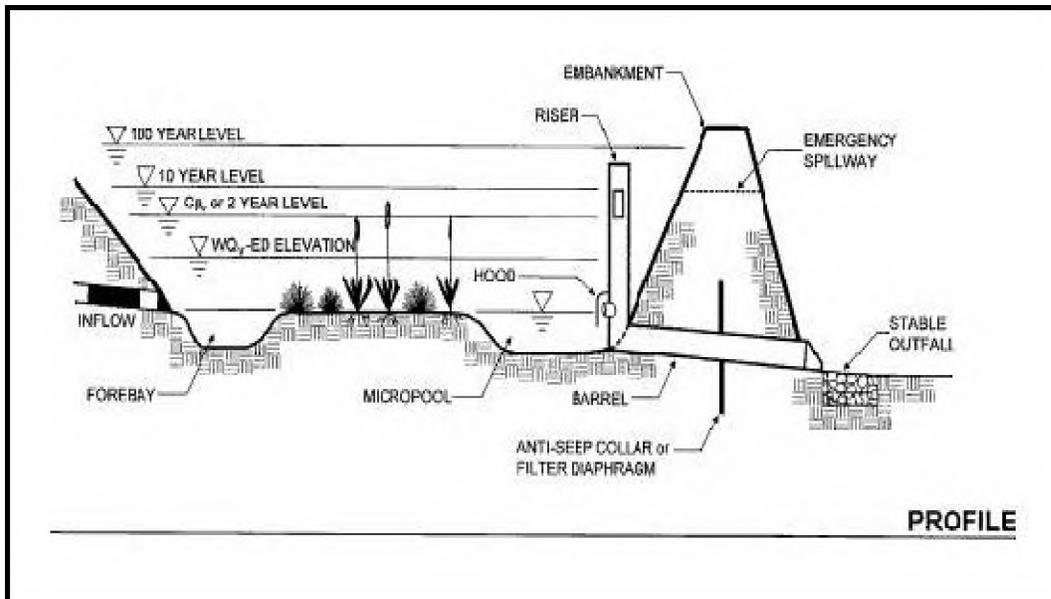

Figure 6:124 Wet Pond Cross Section Source: U.S. Environmental Protection Agency
- Dry pond for peak flow rate (flood) control only (Figure 6:118).
Sometimes a dry pond is an acceptable option for achieving flood detention. However, volume reducing (i.e., retention) practices are preferred over flood detention practices as a method of flood control in the lower portion of a major watershed or drainage basin. A dry pond should also be a last resort option in the upper portion of the watershed, because many alternative practices are available to simultaneously reduce volume, protect against flooding and achieve water quality. As an example, Figure 6:119 illustrates a similar 100-year flood detention benefit is achieved by retaining 1.1-inches of rainfall retention in multiple microscale practices across a residential development.
Dry ponds with concrete conveyance channels or pilot swales should not be used, because they convey polluted stormwater directly to stream resources. See Figure 6:122.
Wet ponds can be used as a retrofit option in existing communities as modifications to existing detention facilities to enhance water quality treatment and downstream channel protection. If water quality, storage and reduced flow rate are the goals, wet ponds should be used in conjunction with other SCMs in an overall stormwater treatment train to achieve the best results. See Figure 6:102. At the very least, sediment and pollutant removal, as well as maintenance needs, can be enhanced through the use of multiple cells in succession.